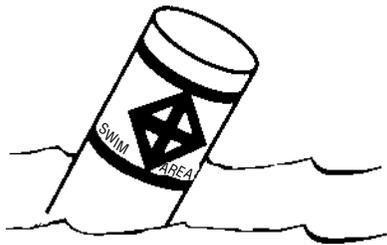

FIGURE 2-13 SWIM AREA BUOY
13. Swim only in areas designated as safe for swimming. These are usually marked with a swim area buoy (Figure 2-13). Do not swim alone or at night.